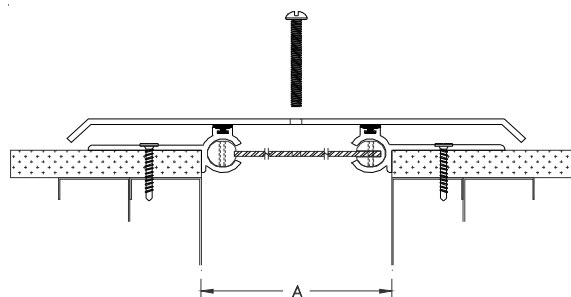

Figure 8
**STEP 13.** Place the cover plate into its installed position spanning the joint. Insert one of the bolts through each of the anchor holes in the cover plate (see Figure 8). Ensure that the cover plate is level and properly aligned.